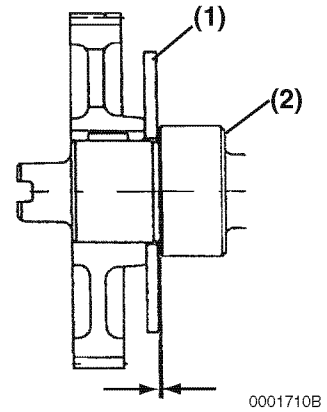

Figure 6-46
- Method B:** Use a feeler gauge to measure the clearance between the thrust plate (**Figure 6-46, (1)**) and front camshaft bearing (**Figure 6-46, (2)**). Record the measurement. See *Thrust Bearing* on page 6-9 for the service limit.